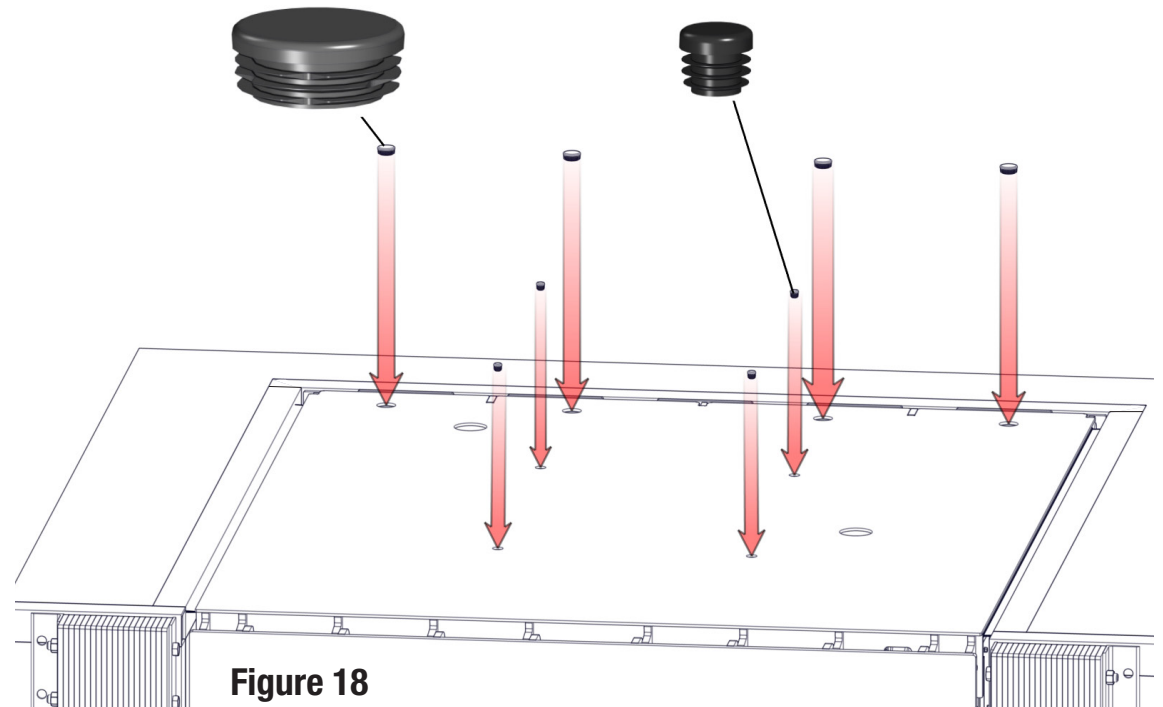

Figure 18
4. Locate the eight deck plugs in the hardware bag. Insert them in the four holes where the deck transportation loops were bolted and the four holes for accessing the rear leveling screws, as shown in **Figure 18**.